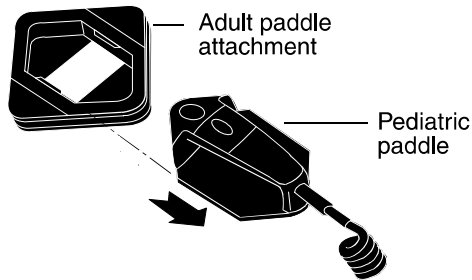

Figure 5-9 Accessing a Pediatric Paddle
- 2 Slide the paddle handle back until you hear a click (refer to Figure 5-9).